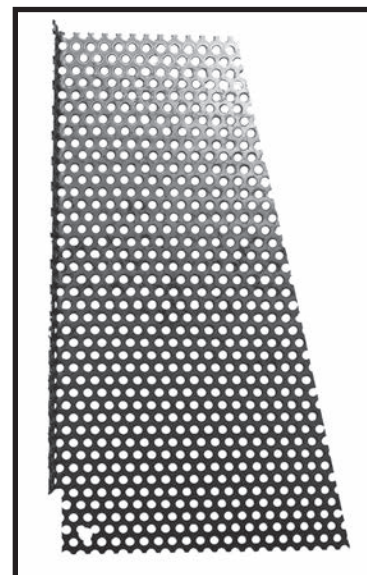
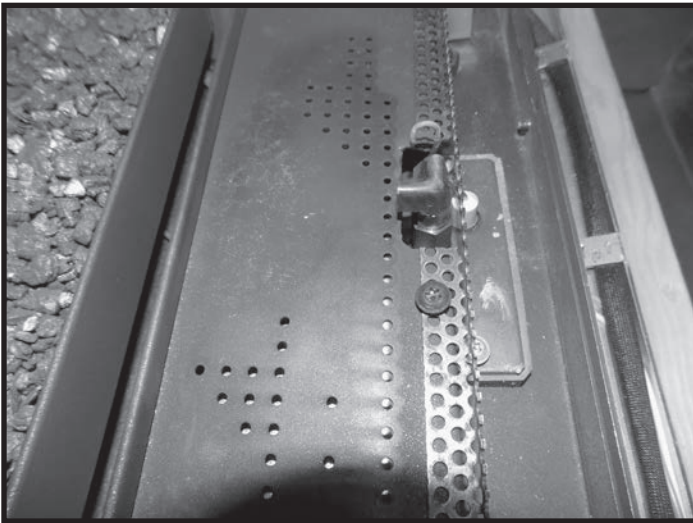
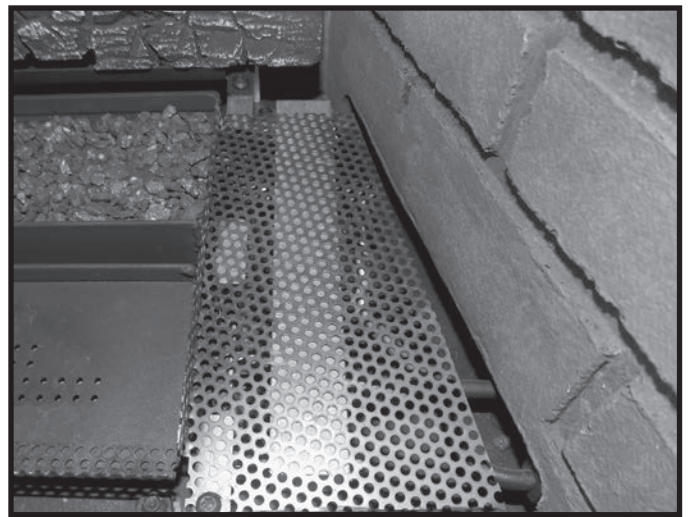

Figure 70: Side mesh guard.
Figure 71: Front mesh guard in place.
Figure 72: Side mesh guard in place.
5. Place the side mesh guard (Figure 70) on the right of the burners and secure with supplied screws (Figure 71).
6. Once the front and side retainers are in place (Figure 71 and Figure 72), the log base pieces can be installed.